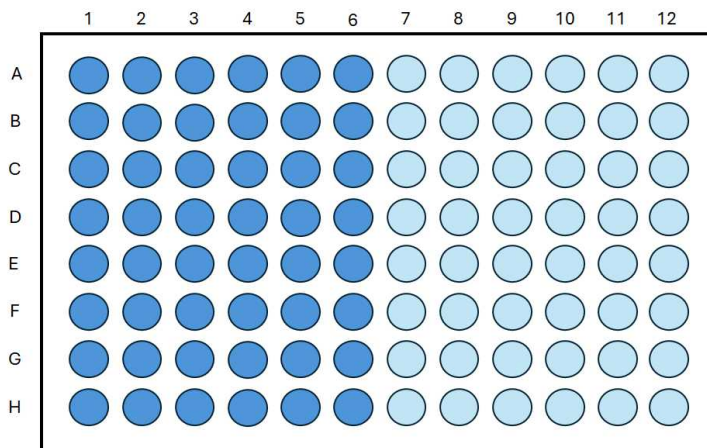

Figure 8. Initial plate configuration. Dark blue = DNA samples; Light blue = empty
- The DNA samples should be aliquoted as shown in Figure 8 below. Samples to be processed should be placed in the first 6 columns leaving the second 6 columns empty and available for subsequent steps.